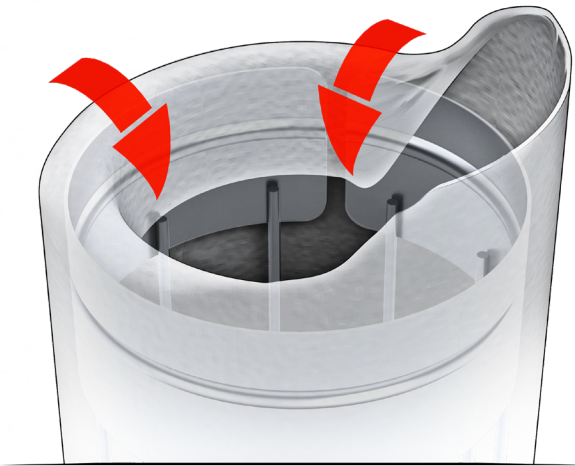

FIGURE 8
3. Tuck the overextended portion of the filter media inside the retainer sleeve (see Figure 8).